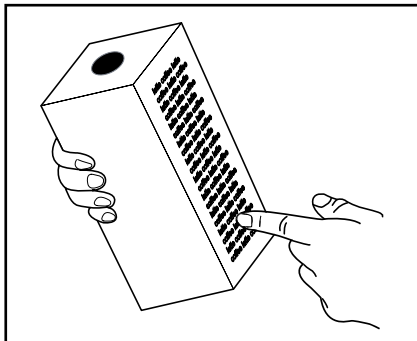

Fig. 1
- Store the product packs according to the description on the packaging (fig. 1).